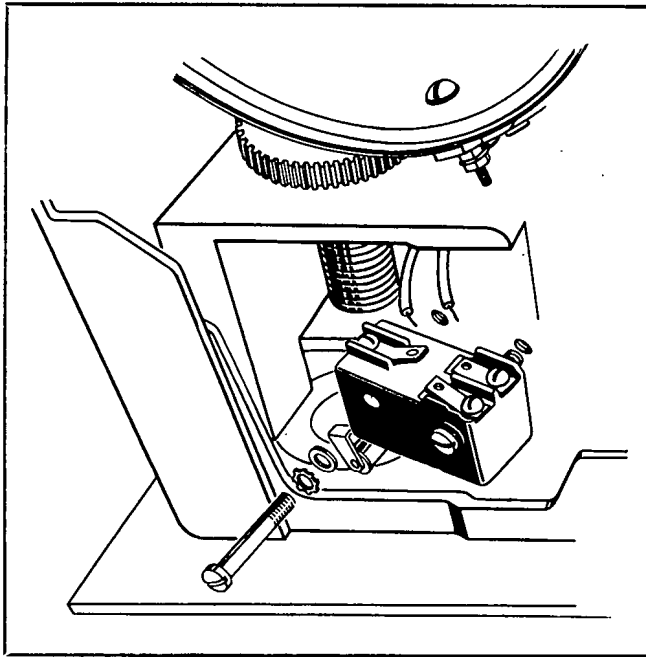

Figure 7-41. Removing Range Step Switch from Range Scope
(11) The range step switch is a micro-switch mounted at the bottom of the chassis behind the front panel. Its removal is shown in Fig. 7-41. To remove it, disconnect the leads from the lug connectors and remove the two mounting screws. When installing the new switch, be sure to connect the switch leads to the two lugs on one end of the switch.